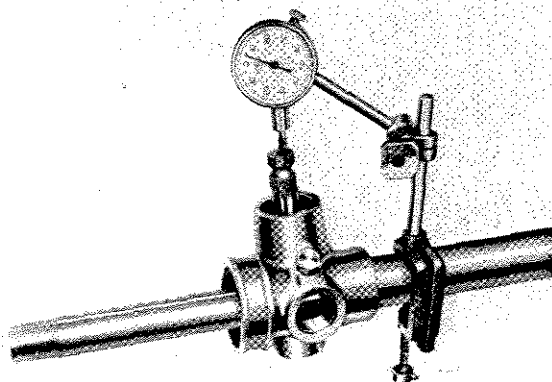

Fig. 8. Measuring pinion end float
1. Assemble the thrust washer (6), bush (5) and retaining ring (3) to the pinion (39). Insert the assembly into the pinion housing and secure the pinion with the circlip (1).
2. Mount a dial gauge on the tube as shown on Fig. 8. Push the pinion down to its limit and zero the dial gauge. Lift the shaft until the retaining ring contacts the circlip and note the dial reading which represents the total pinion shaft end float. Remove the circlip (1) and withdraw the pinion shaft assembly. Remove the retaining ring (3) and renew its rubber 'O' ring if required.
4. Assemble the shim pack (4) and retainer ring (3) to the pinion. Re-insert the assembly into the housing and finally secure it by fitting the dowel (2) and circlip (1).